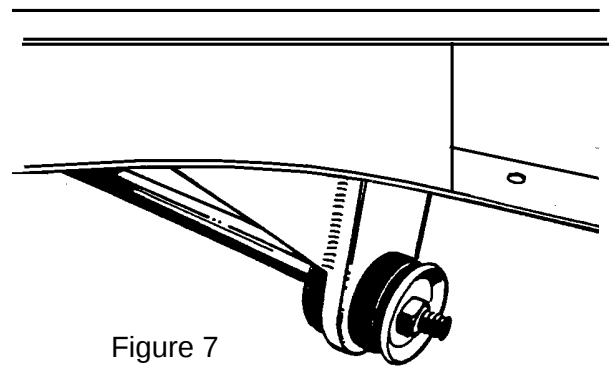

Figure 7
10. Install the strut rod onto the control arm. Now, assemble onto the strut rod the large rubber bushings, including the cupped washers, and the strut mount plate. Be certain to fully tighten the nut on the strut rod to its' fully seated position. (See Figure 7) There are two rubber bushing sets available; the standard replacement and the improved set. We recommend the improved set, as it provides more stability to the front suspension. The Pinto and Mustang strut rods are different lengths. We recommend the use of Pinto strut rods, as they are bent less than the Mustang strut rods. You will find that with either strut rod the strut rod plate does not line up with the bottom of the frame rail. The strut rod must be heated in the elbow area and bent outward. The rod is bent outward until the strut mounting plate lines up to the frame rail. You will find that because the Pinto strut rod is initially bent less and requires much less bending. The strut rod will act as an alignment fixture while you tack weld the mount plate in place, then tack weld the gusset in place. Remove the strut rod, bushings, and arm, and finish welding to the frame and each other.